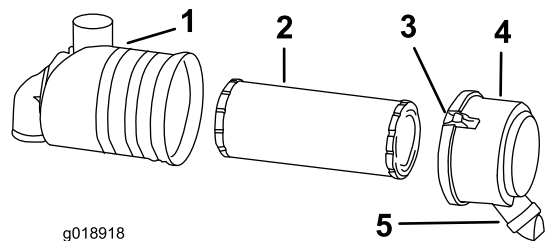

Figure 20
3. Release the latches on the air cleaner, and pull the air-cleaner housing off the air cleaner body (Figure 20).
1. Gently slide the primary filter out of the air cleaner body (Figure 20). Avoid knocking the filter into the side of the body.